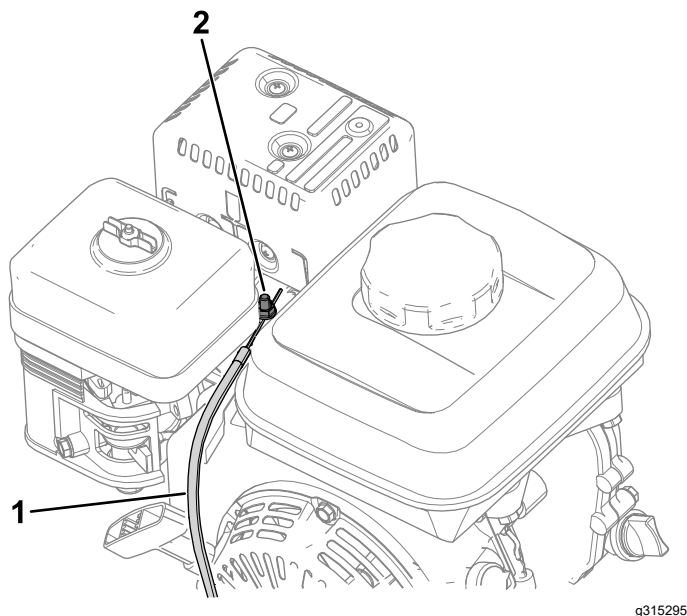

Figure 35
4. Loosen the screw on the cable-conduit clamp (Figure 35).